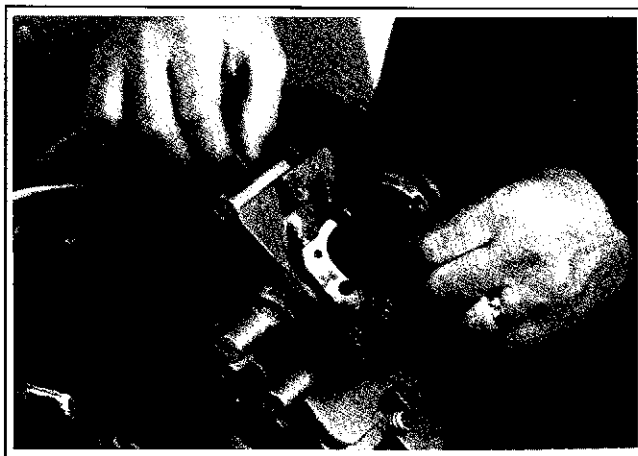

Figure 11-27. Install Cross Shaft and Yoke.
1. Slide governor cross shaft in from inside of valve box. See Figure 11-27.
2. Secure yoke with two allen head screws. See Figure 11-27.